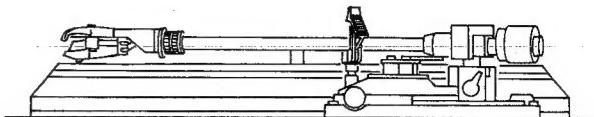

Fig. 8
- Turn the main weight so that the tonearm maintains a balance with the stylus tip is almost touching to the record. (Fig. 8, 9)